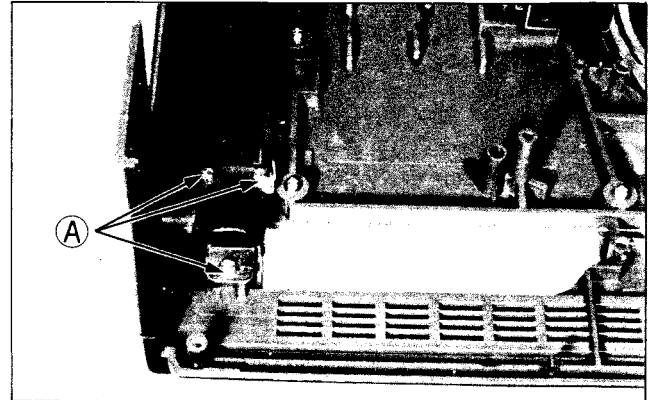

Fig. 11
After raising the color TV P.C. board and unfastening the three screws marked (A) in Fig. 11, pull the rod antenna inward.